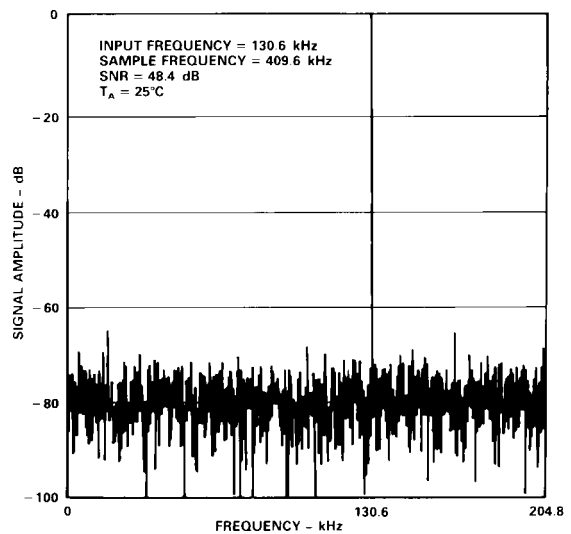

Figure 14. ADC FFT Plot
Figure 14 shows a 2048 point FFT plot of the ADC with an input signal of 130 kHz. The SNR is 49.2 dB. It can be seen that most of the harmonics are buried in the noise floor. It should be noted that the harmonics are taken into account when calculating the SNR. The relationship between SNR and resolution (N) is expressed by the following equation: